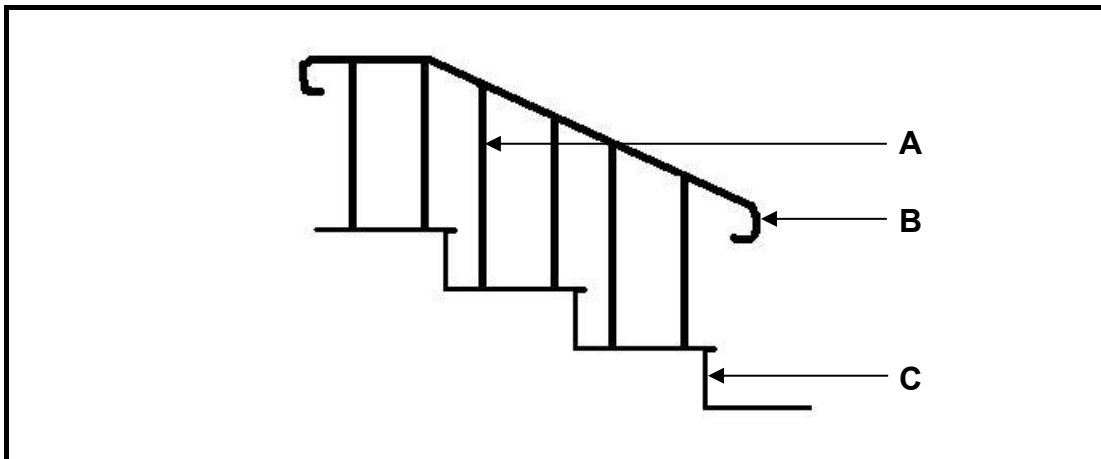

FIGURE 3.7
3.7 Answer the **questions** about the **staircase** in **FIGURE 3.7**.